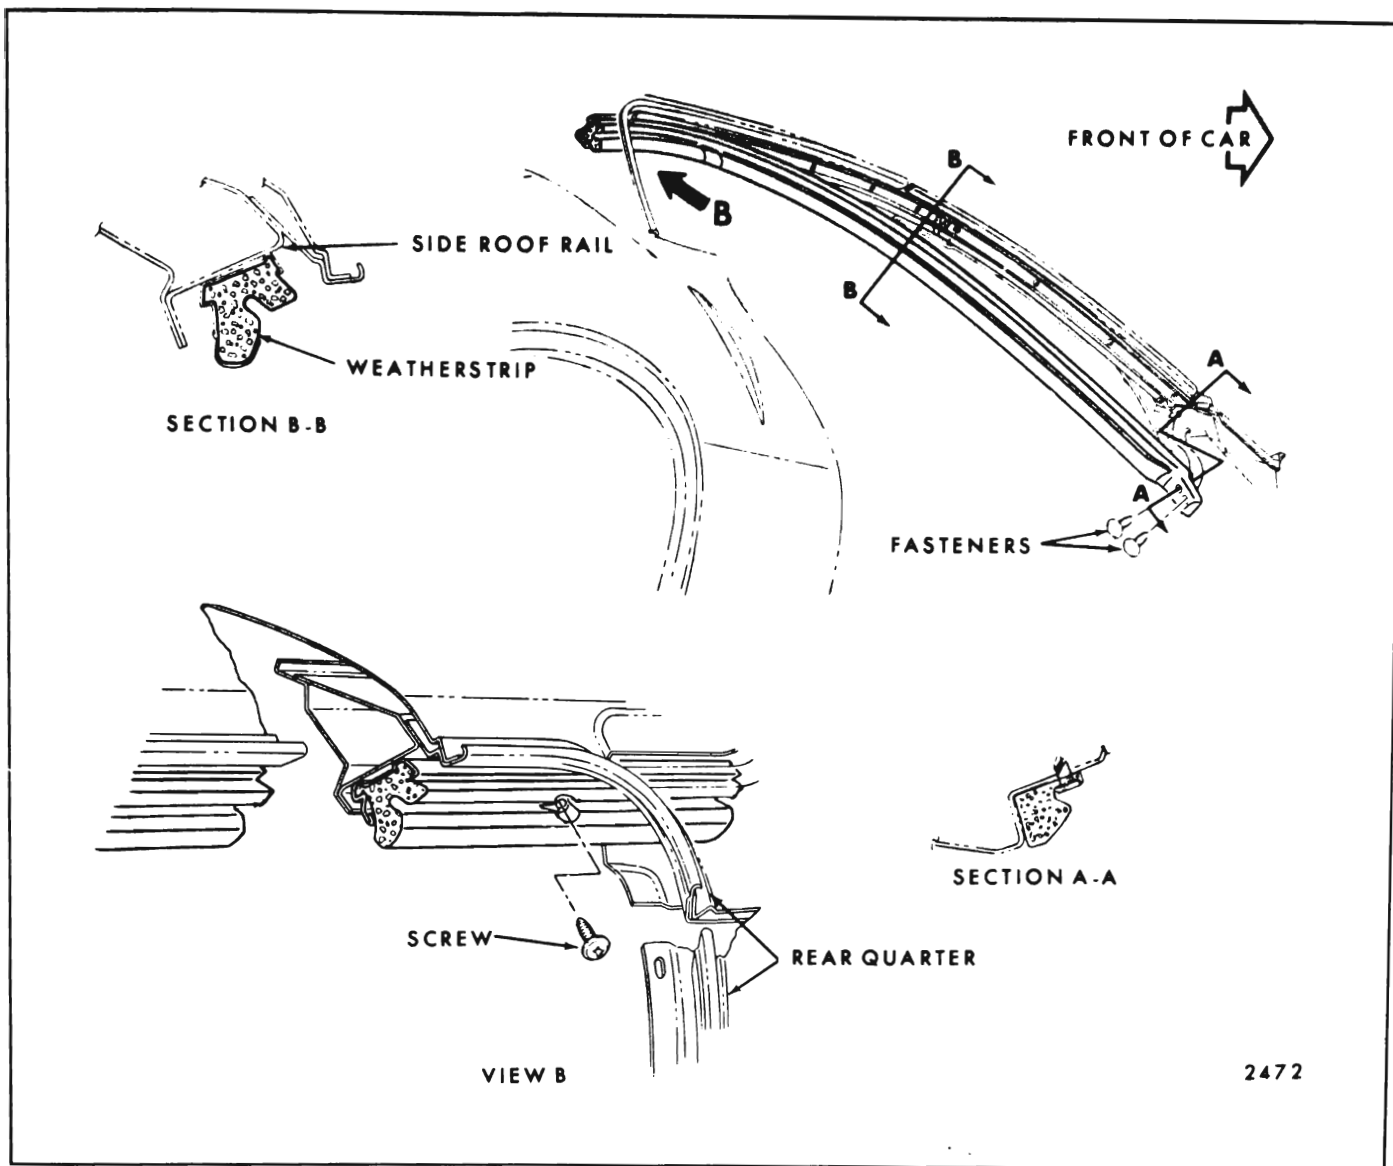

Fig. 6-22 — Side Roof Rail Weatherstrip Assembly - "E-47" Styles
1. At front of weatherstrip, disengage plastic fasteners from front body hinge pillar (See Fig. 6-22).
2. Lower rear quarter window and remove screw at rear of side roof rail weatherstrip (See Fig. 6-22).
4. With weatherstrip removed, screws securing weatherstrip retainer to side roof rail are exposed. Remove screws to remove side roof rail weatherstrip retainer (See Fig. 6-22).